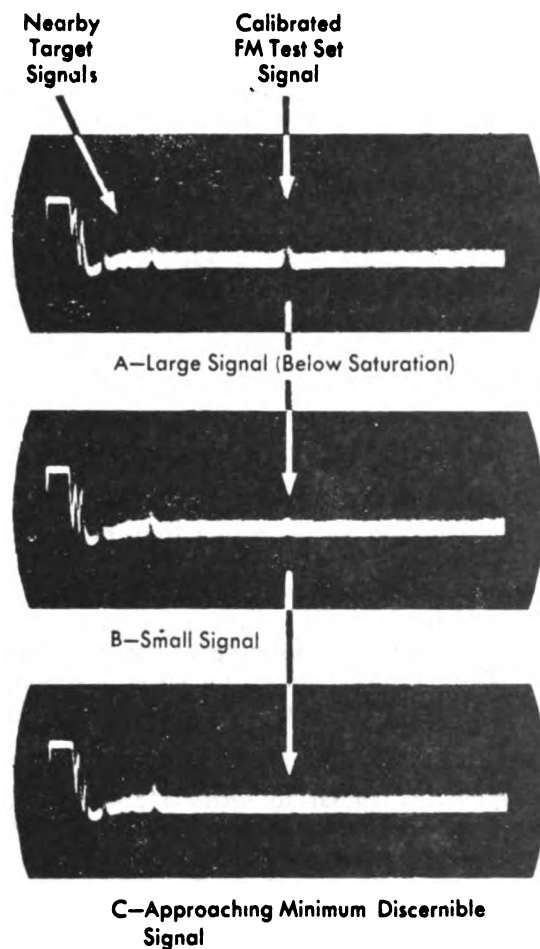

Figure 4-11. Measuring Minimum Discernible Signal Power
(1) Check the receiver frequency (see par. 9.), unless it is known that the radar receiver is tuned to its transmitter.
(2) Turn the radar AFC on (if operative) and set the radar receiver gain to show a part of the transmitter pulse and the noise.
(3) Tune the test set to the receiver. (See par. 5b.)
(4) Adjust the test set wattmeter (See par. 4b(2).)
(5) Turn the TEST knob to the RECV position, and turn the DBM knob clockwise. The FM signal will again appear on the scope.
(6) Broaden the bandpass curve to maximum by turning the SIGNAL WIDTH control clockwise to CW while at the same time turning the PHASE knob to hold the pattern on the screen. Detune the frequency meter.
(7) Adjust the POWER SET knob until the meter reads SET POWER.
(8) Turn the SIGNAL WIDTH knob carefully counterclockwise toward MIN to return the set to FM operation, taking care to use the same mode as in par. 11a(6).
(9) Turn the DBM attenuation control until the test set signal just disappears in the noise. (See figure 4-11. At the point where the signal just disappears, turn the knob in one-dbm steps and move the signal